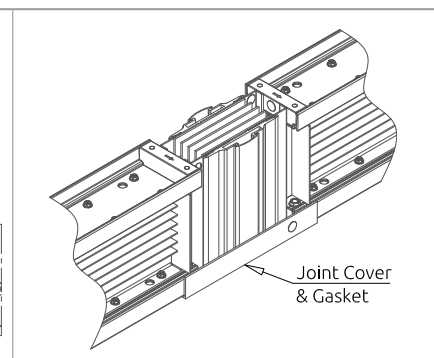

Figure 9.3
4. Install the joint cover at the bottom of the busway as shown in Figure 9.3